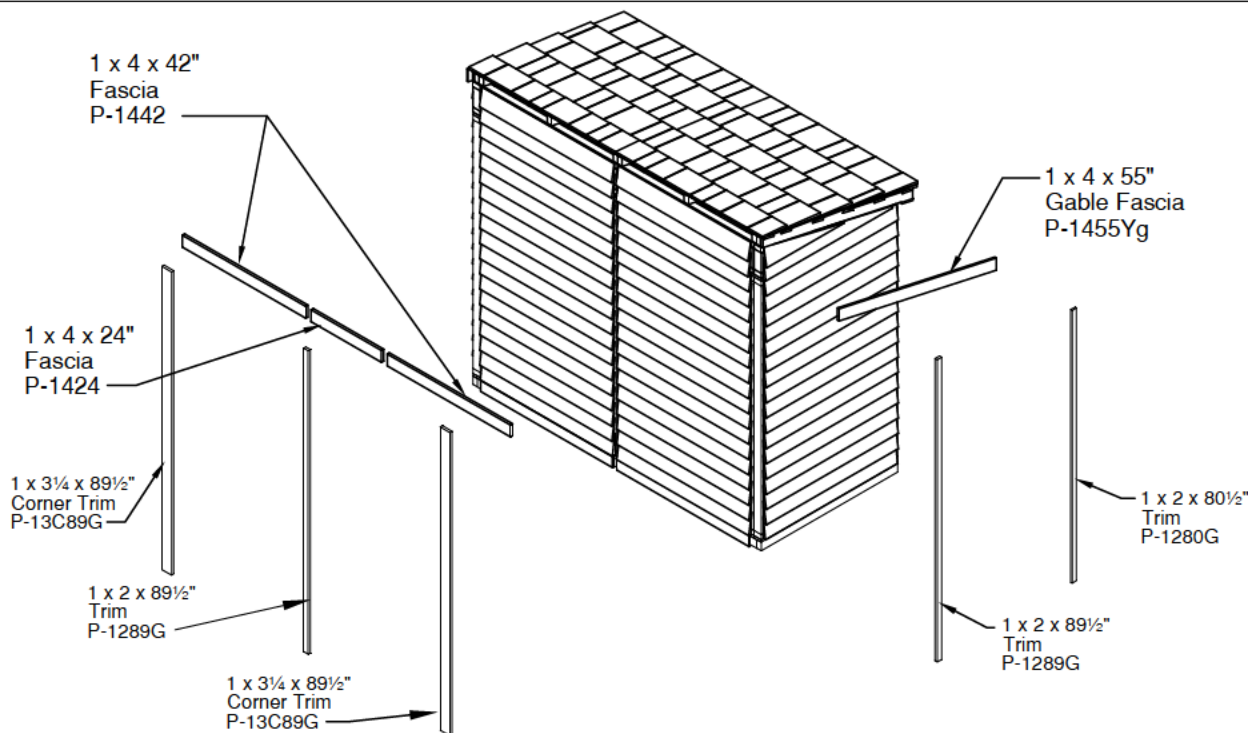

FIGURE S20
- There are three pieces of soffit to be attached on the low wide side of the shed. Using 2 - 1 3/4" nails for each end of the soffit and 1 - 1 3/4" nail for the center of each soffit attach the soffit to the underside of the rafter ends. For details refer to Figure S20 below.